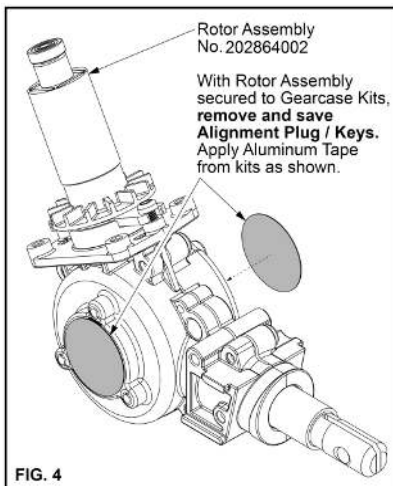

FIG. 4
11. Remove left and right alignment plug (s) and apply aluminum tape disc from kits to each side of gearcase (fig.4). **SAVE PLUGS** incase motor needs servicing or replacing.